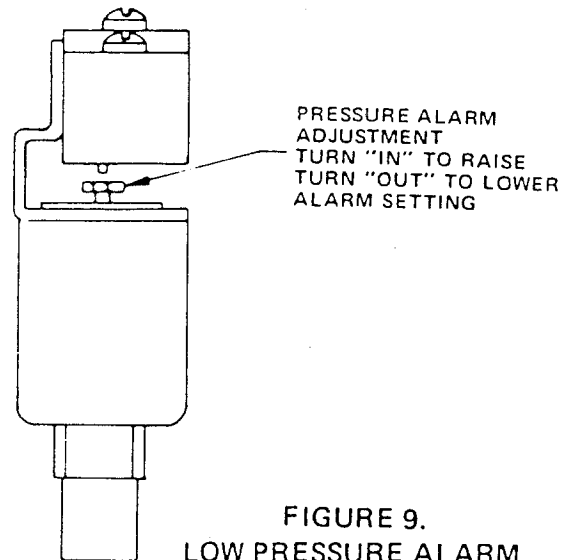

FIGURE 9.
5. Low Pressure Alarm (Figure 9)